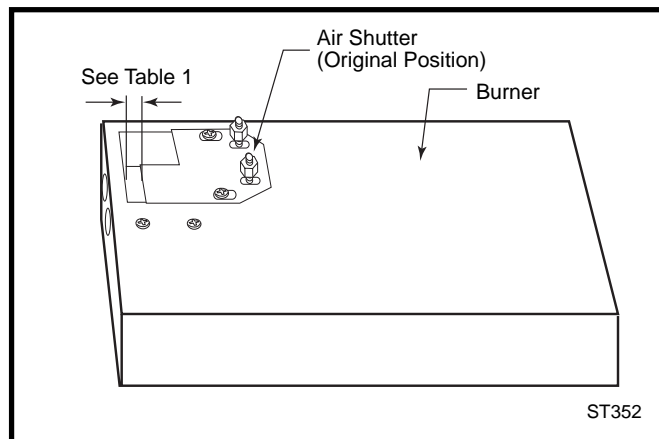

Fig. 39 Air shutter in original from-the-factory position.
8. The air shutter is located on the bottom of the burner to the left. (Fig. 39) Unfasten the two nuts holding the shutter in place. The shutter may be adjusted between the factory adjusted 1/2" to fully open. Reassemble the shutter to allow the rear injector air